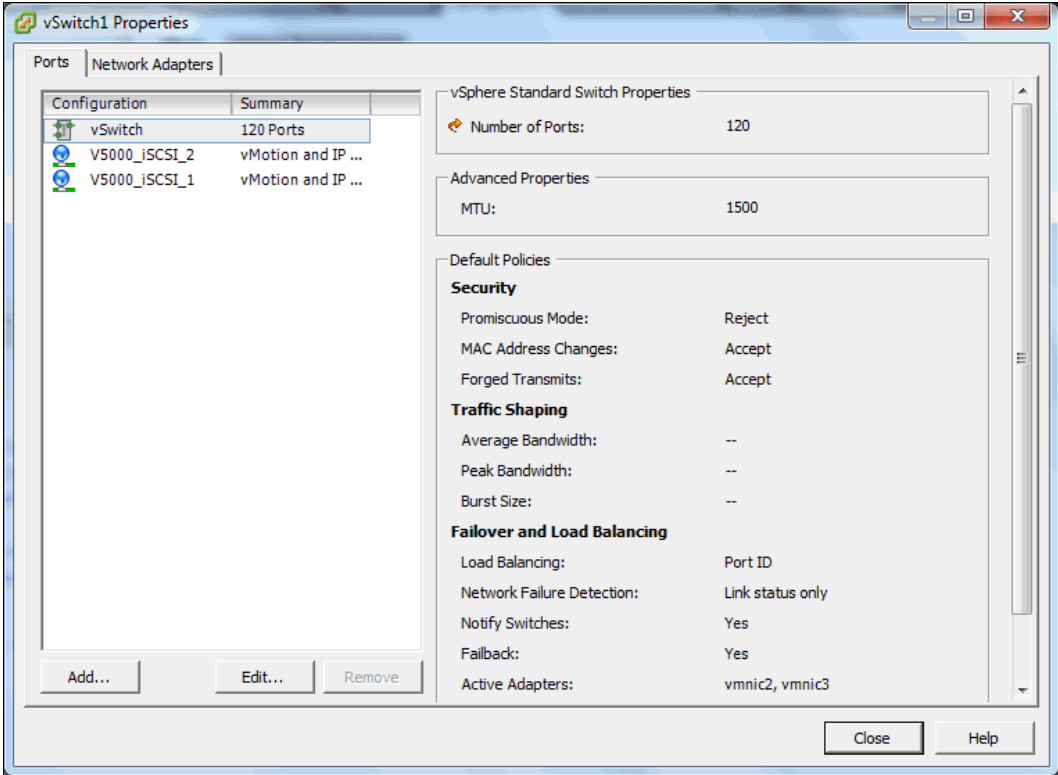

Figure 5-33 View the vSwitch properties with listed VMkernel ports
- 1. Browse to the **Configuration** tab and select **Networking**. Click **Properties** next to the vSwitch that you configured for iSCSI to open the window that is shown in Figure 5-33.